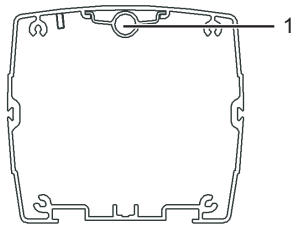

Fig. 2 Wiper shaft guide location
3. Slide the wiper shaft guide into the body moulded guides (see Fig. 2).